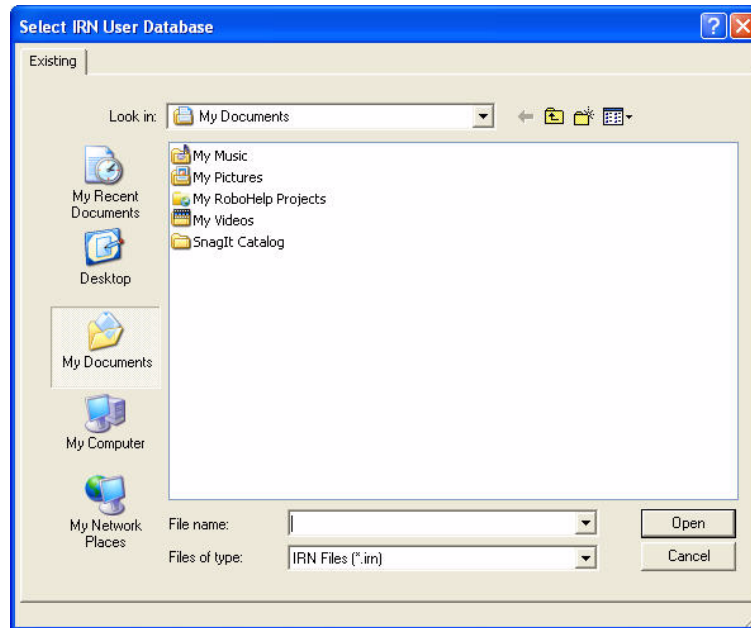

FIG. 83 Select IRN User Database window
1. In the NetLinx Studio Workspace, select *Add From User IR Database...* to open the *Select IRN User Database* window (FIG. 83).